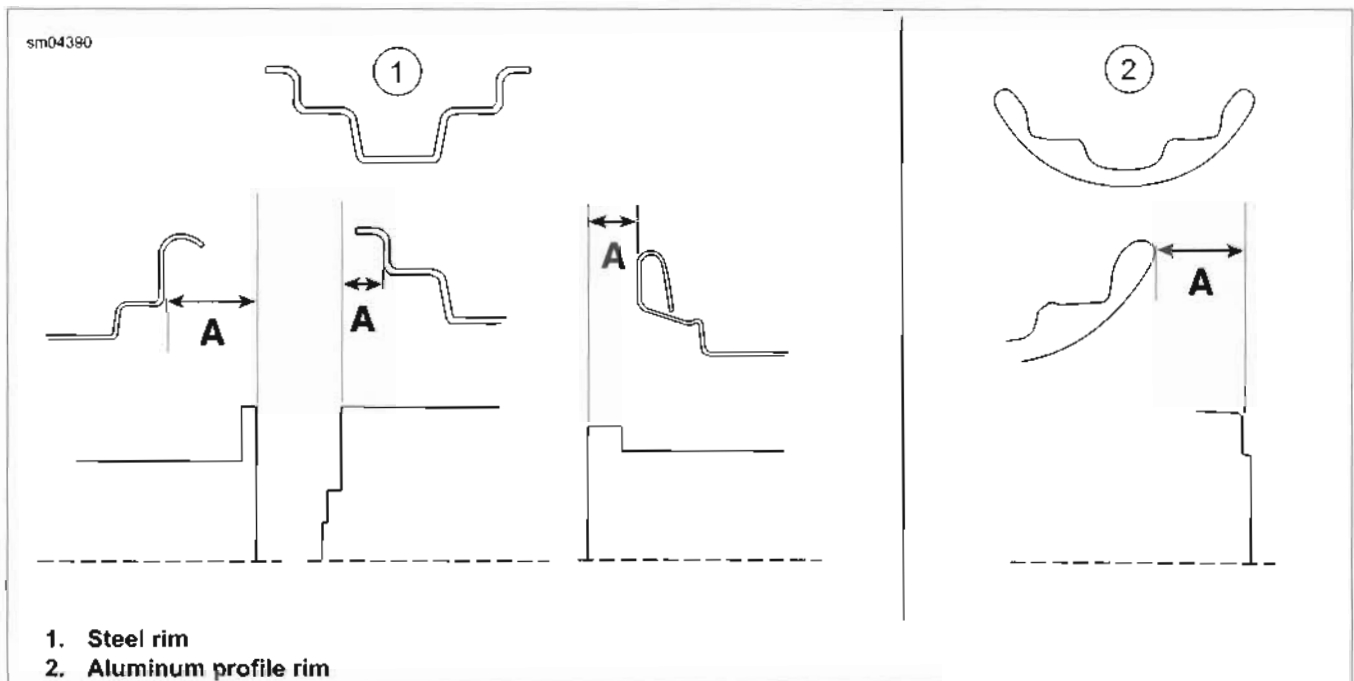

Figure 2-20. Laced Wheel Hub Offset Dimensions
- See Figure 2-20. Measure the distance from the straightedge to the location shown, based on rim design, to determine distance A. Refer to Table 2-13.